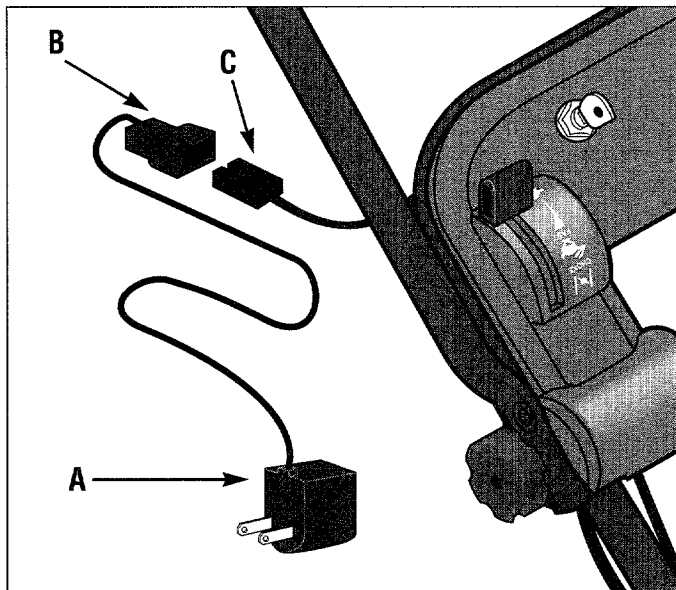

Figure 5-19: Battery charging.
B. Plug the battery charger (A) into a *grounded 120V wall outlet*. (Note that the battery charger is designed for use indoors and should not be exposed to rain or snow.) Attach the connector from the charger (B) to the connector at the handlebars (C) as shown in Figure 5-19. Allow the battery to charge for 24 hours before using the ignition switch to start the engine.
C. Unplug the battery charger (A) from the wall outlet and then unplug the wire harness connectors (B and C).